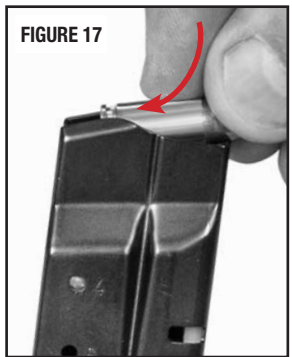

FIGURE 17
- Load the magazine by pressing a cartridge head (rear of cartridge) downward on the forward portion of the magazine follower (or downward on the case of the previously loaded cartridge) and sliding the cartridge fully under the lips of the magazine until the cartridge head is against the rear wall of the magazine (FIGURE 17). Repeat this procedure for the number of cartridges you wish to load, up to the magazine capacity. Do not attempt to load your magazine with more than the specified number of cartridges because doing so can cause a feeding failure.